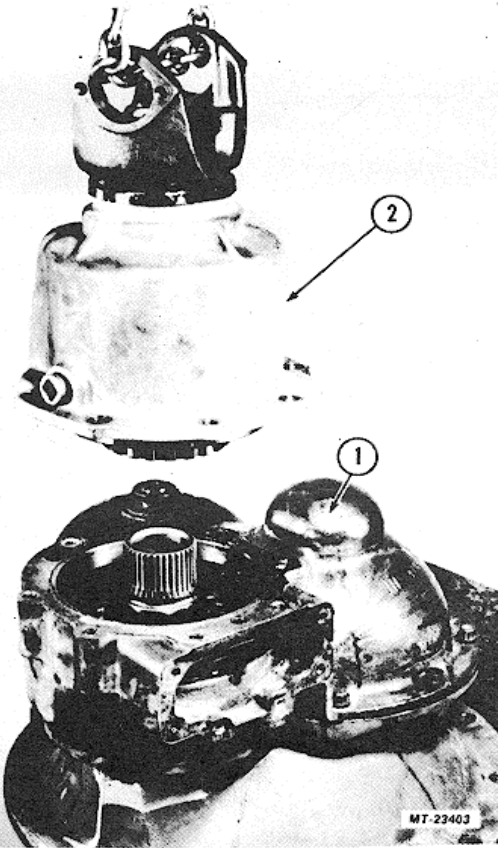

Fig. 4. Removing Inter-Axle Diff
2. Remove inter-axle diff cover bolts and lift inter-axle diff assembly from power divider intermediate case (Fig. 4).